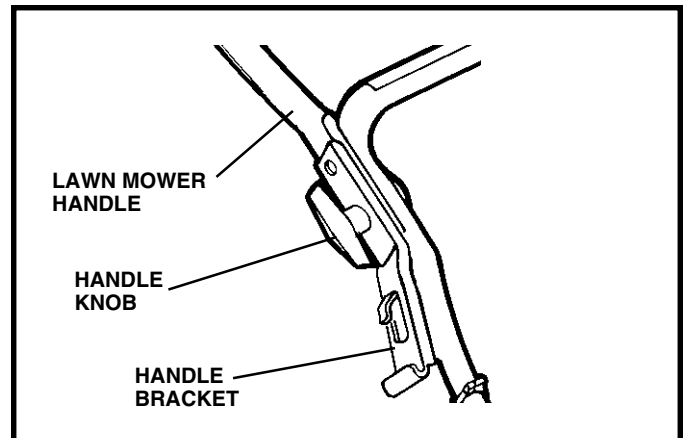

FIG. 1
- Attach catcher handle bracket to lawn mower handle using handle knob provided on lawn mower handle (See Fig. 1).